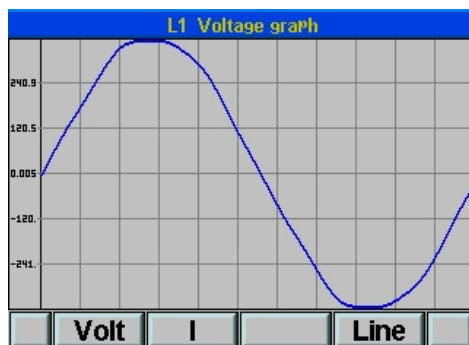

Figure 5.14. **Voltage Graph**
- 2 Click “Enter”, the **Power Quality** screens appears (Figure 5.14).